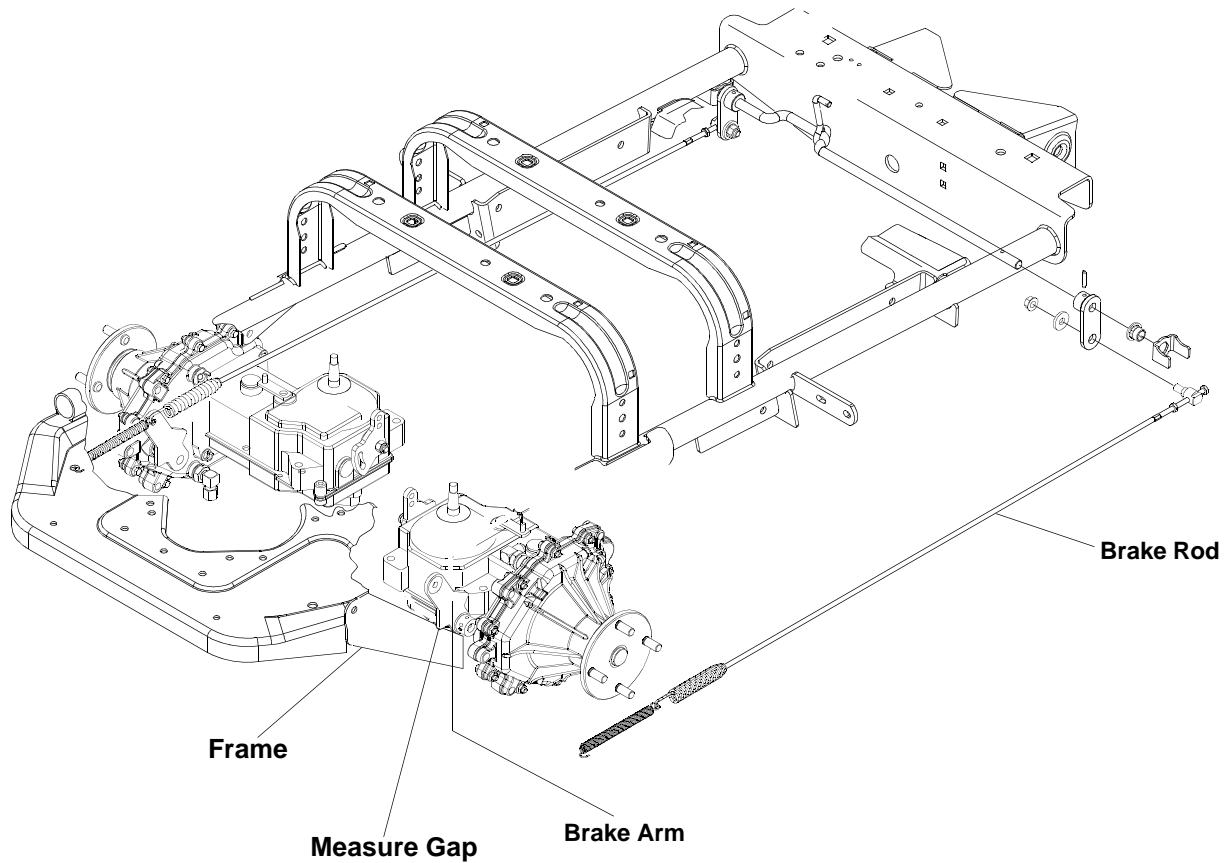

Figure 13
3. From underneath the Z-series directly behind the caster wheel pivot bar, locate the brake rods. There are two, one on the right and one on the left. (See Figure 13)
4. The factory sets a 1/16" gap minimum between the brake arm and frame of the Z-Series. More adjustment may be necessary. (See Figure 13)